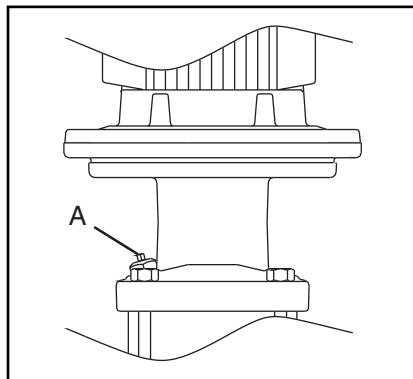

Fig. 10
3. Loosen the drain plug (A, Fig. 10) one or two turns until water and air come out.